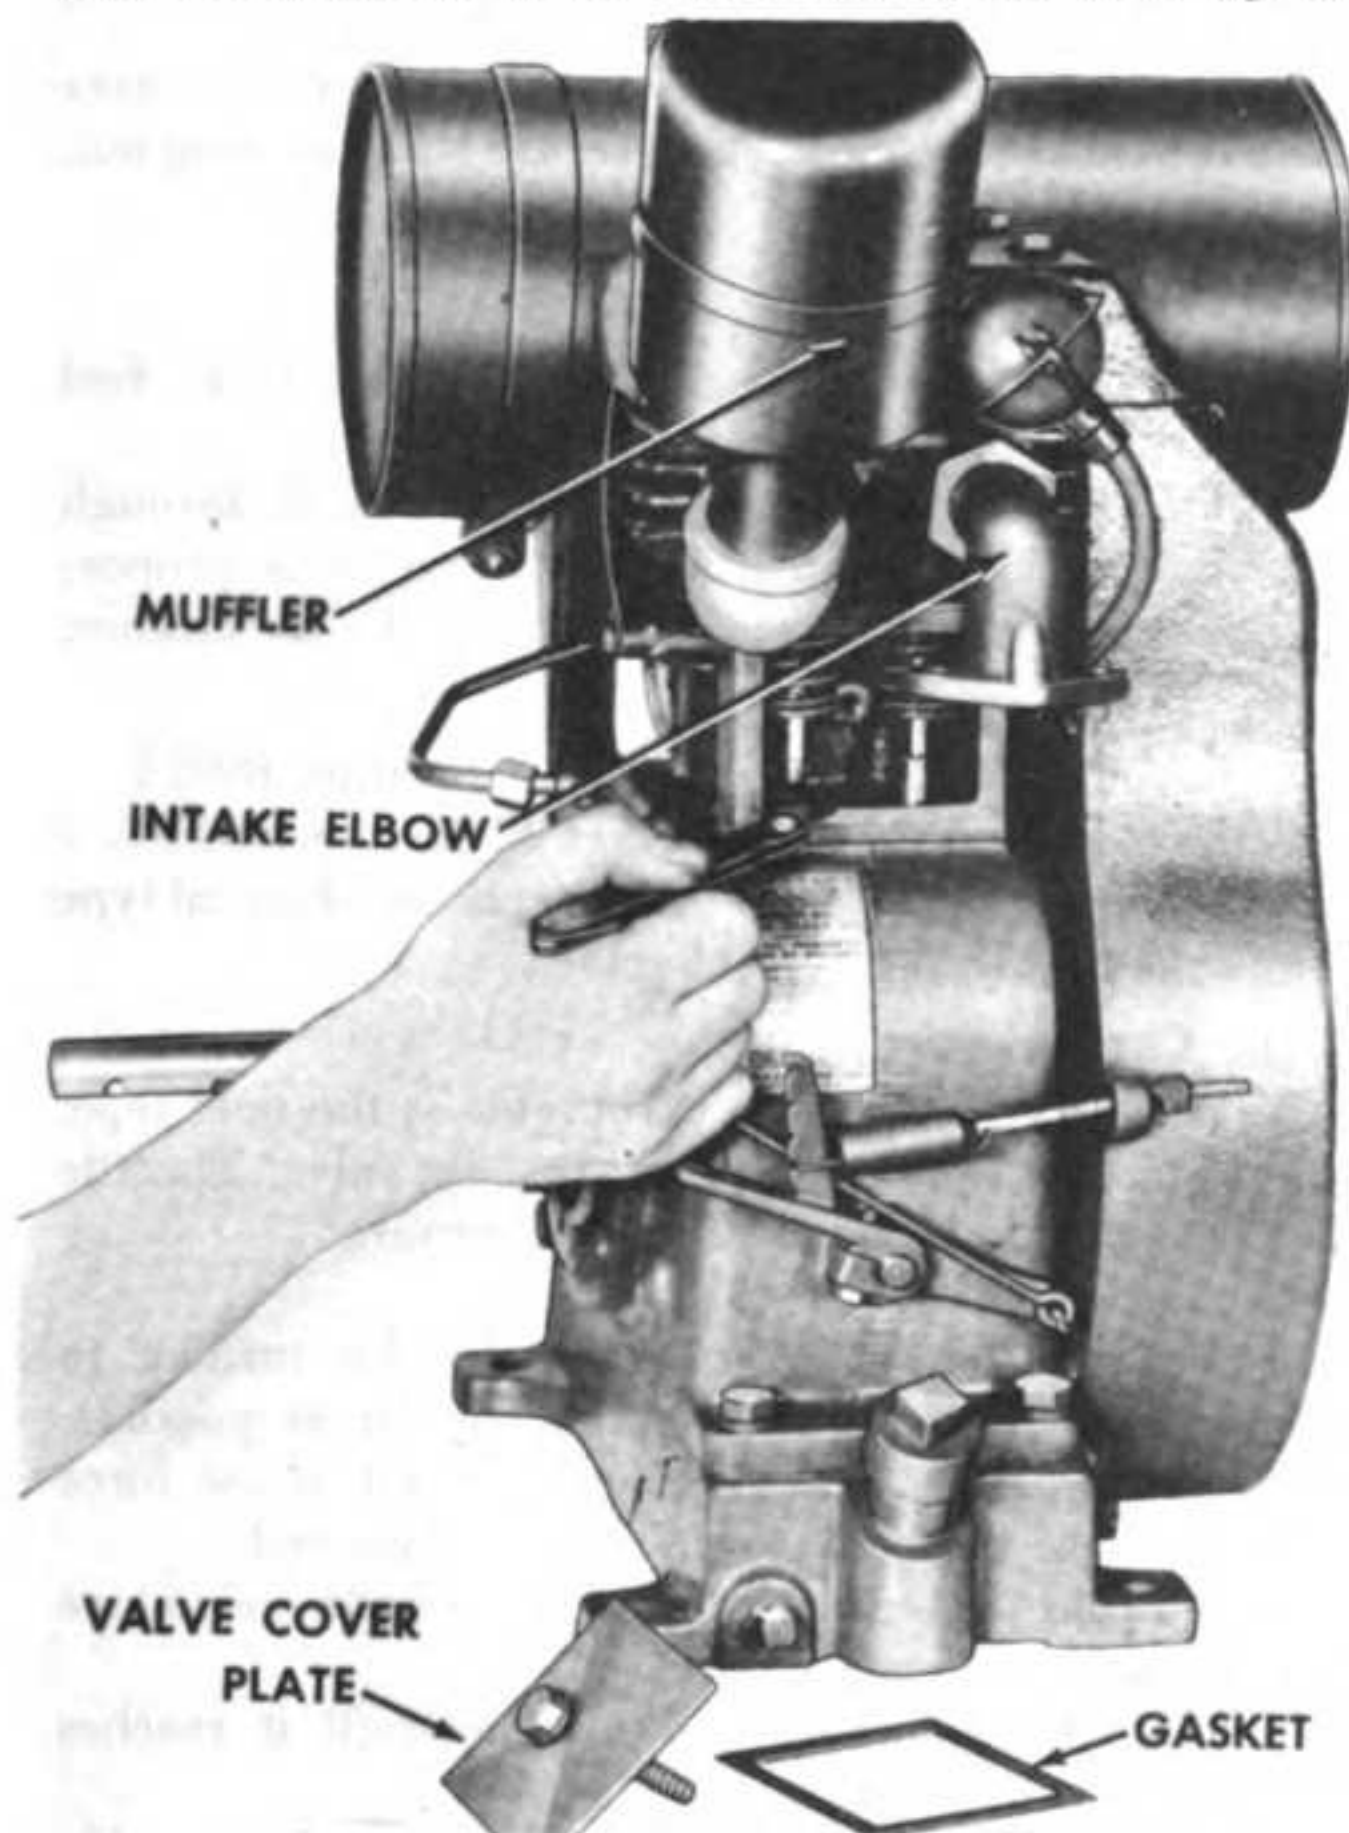

Figure 19—Inspecting Valve Lifter Clearance
- (1) Remove the muffler and intake elbow. (See figure 19.)
- (2) Remove the cylinder head. (See paragraph 27.)
- (3) Use a valve spring compressor to compress the valve spring; pry out the split retainer collars and lift the valve from the crankcase.
- (4) Grind the end of the valve stem to obtain the proper clearance. Be sure the end of the stem is square with the stem proper.
- (5) Install the valve, as follows:
- (6) Install the muffler and intake elbow.
- (7) Install the cylinder head. (See paragraph 27.)
- (8) Position a new gasket and the valve cover plate on the crankcase; install the valve cover screw with a washer and secure.
- (9) Install the carburetor and air cleaner. (See paragraph 32.)